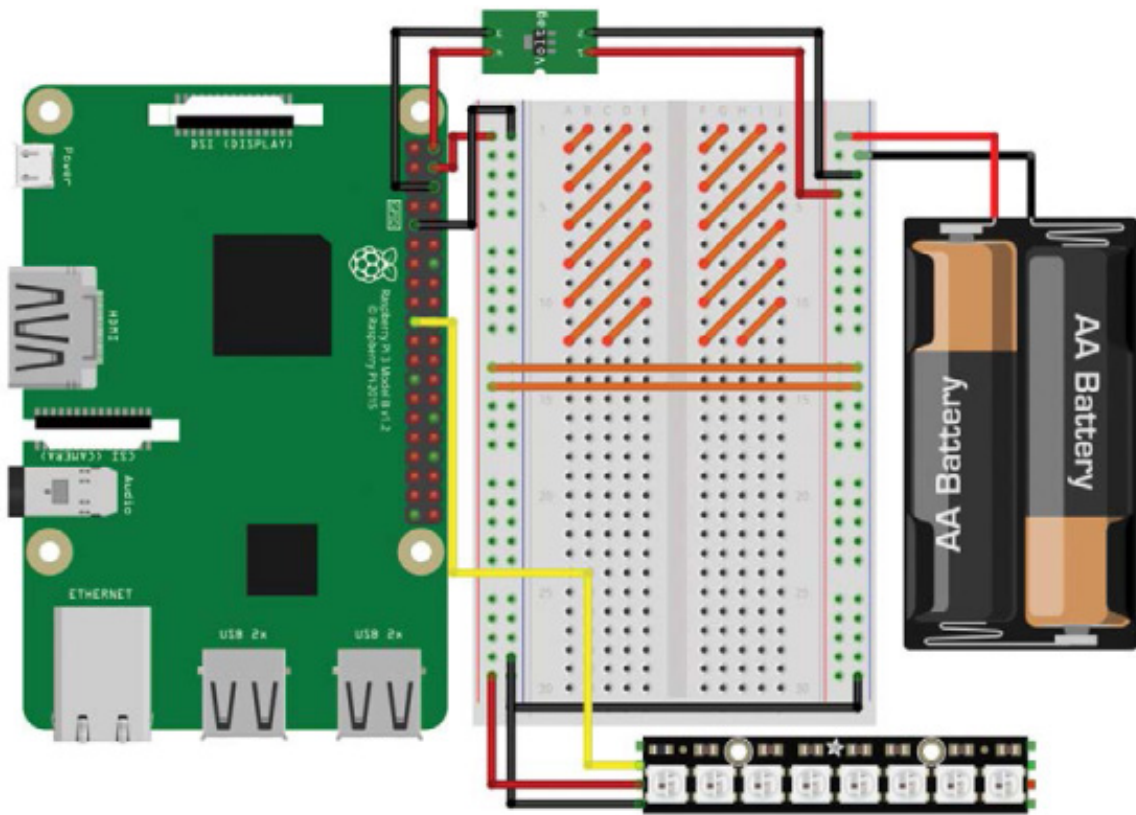

FIGURE 6-7 Complete breadboard diagram with the NeoPixel Stick wired up to power and your Pi
3. Use a final jumper wire to connect the DIN (Data-In) pin of your NeoPixel Stick to physical pin 19 (BCM 10) on your Raspberry Pi (see “Raspberry Pi GPIO Diagram” on page 200 for a guide to pin numbering). The complete circuit should look like Figure 6-7.